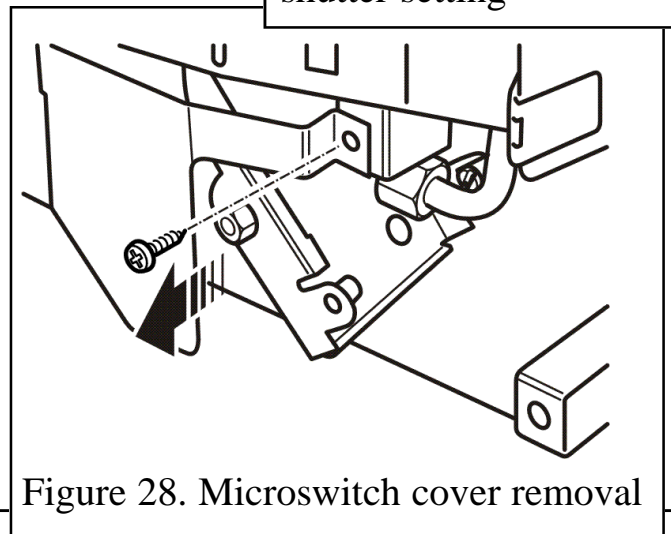

Figure 28. Microswitch cover removal
(See figures 28 & 29).
3. Disconnect the leads from the ignition microswitch (The lower of the two microswitches - See figure 28).
(See figures 28, 29 & 30).
2. Detach the microswitch cover by removing one screw and pulling clear of the location lug (See figure 28).